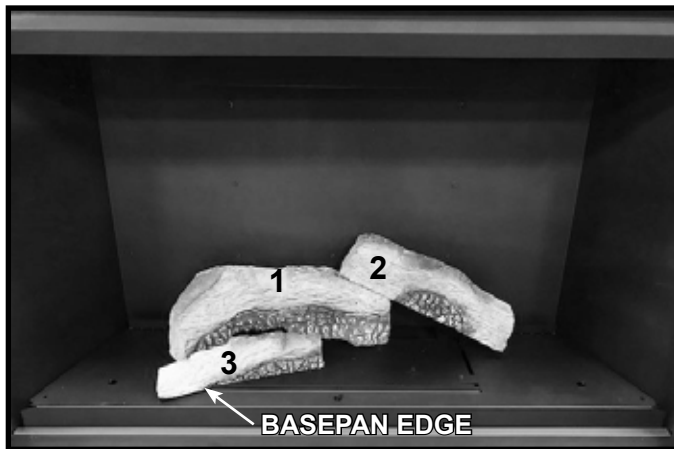

Figure 6. Install Log #3
4. **LOG #3:** Locate and install Log #3 by installing the “right” end of the log over the left burner pin and pressing “down” to engage log pin. Rotate Log #3 counterclockwise until it contacts the base pan edge as shown in Figure 6.